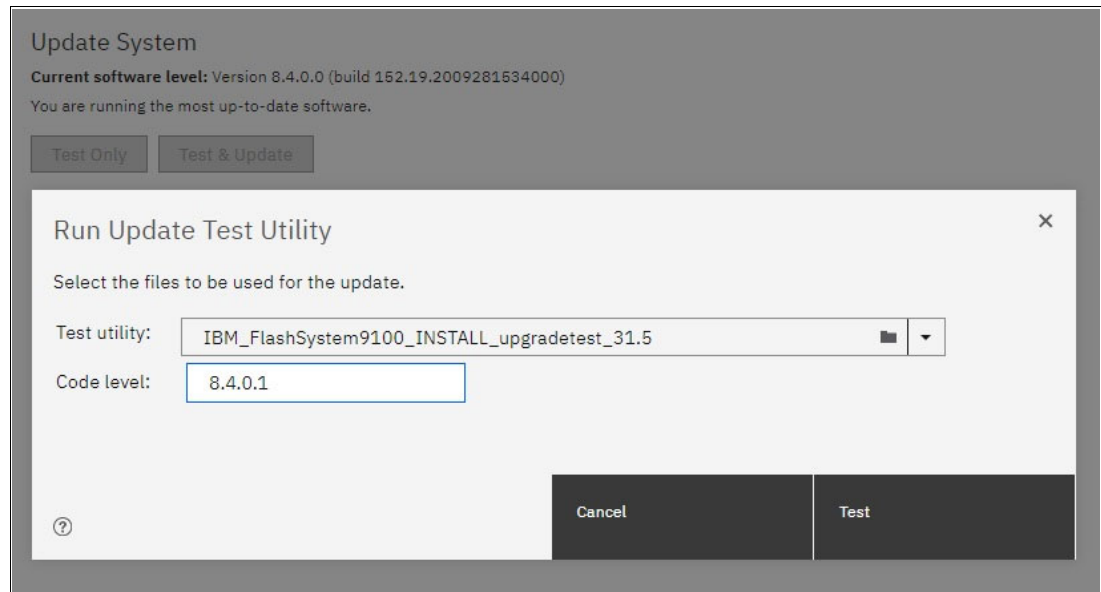

Figure 10-4 IBM FlashSystem Upgrade Test Utility using the GUI
3. Select the test utility that you downloaded from the Fix Central support site. Upload the Test utility file and enter the code level you are planning to update to. Figure 10-4 shows the IBM FlashSystem management GUI window, that is used to install and run the Upgrade Test Utility.